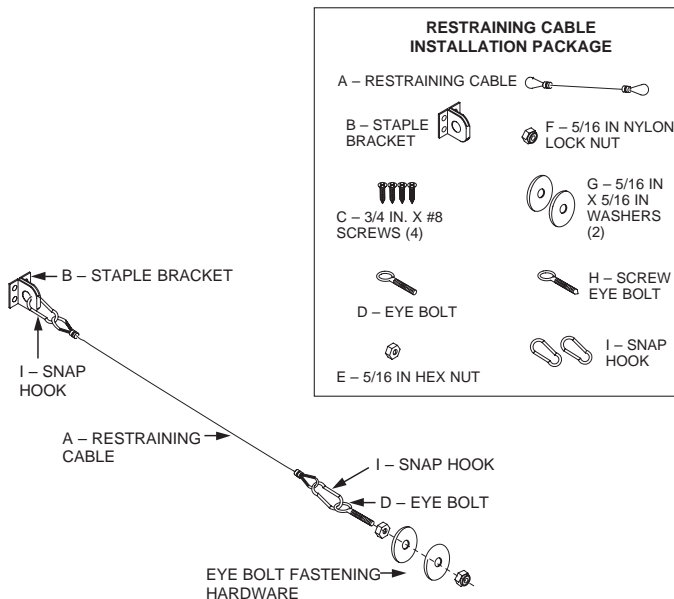

FIGURE 4-30
7. Attach one of the snap hooks (included in the Restraining Cable package) on the end of the Restraining Cable to the wall bracket and the other snap hook to the eye-bolt. See Figure 4-30. After snap-hooking the assembly, seal the Restraining Cable Loops to the wall bracketry and appliance connection hardware with Lead Wire Seal (Part No. 197).